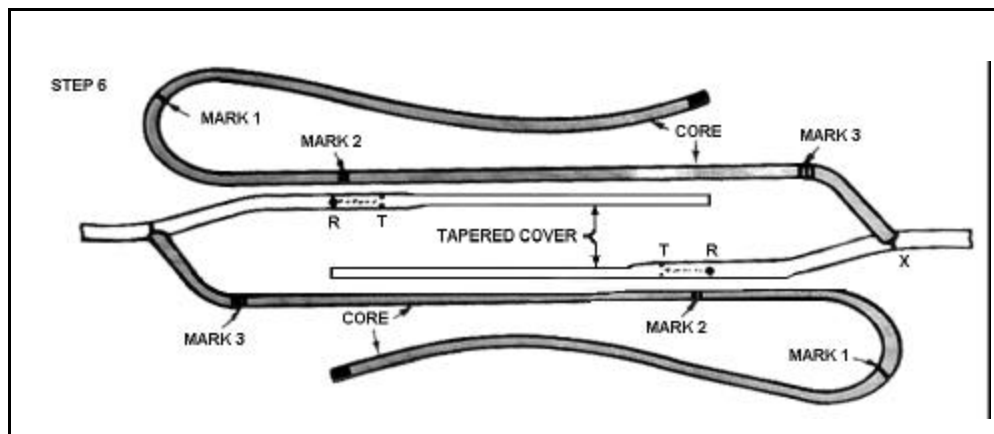

Figure 12-71. Repositioning the Lines
- STEP 6 -- Repositioning the lines.** Reposition lines for splicing as shown in Figure 12-71. Note how cover of one line has been paired off with core of the opposite line. Avoid twisting.